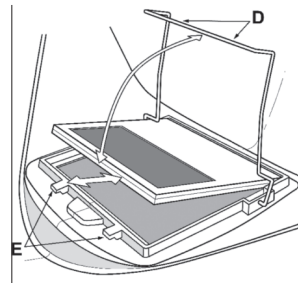

Figure 3
Fitting New Cartridge: Take the new shade cartridge and pass the potentiometer cable under the wire loop before placing the cartridge into its retaining frame inside the helmet. Lower the wire loop and ensure the front edge of the loop (D) is properly retained under the retaining lugs (E) as shown in (figure 3).